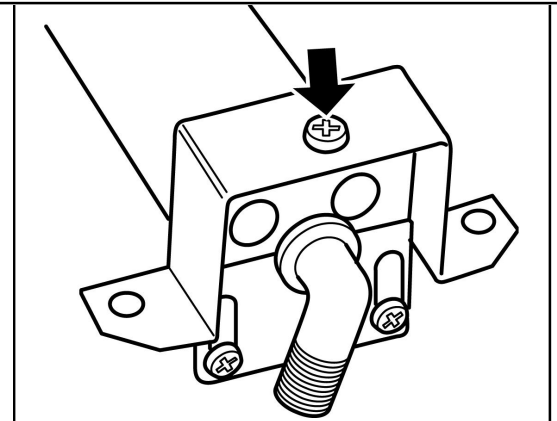

Figure 46. Main burner injector removal
(See figure 46).
2. Remove the burner clamping screw (See figure 46).